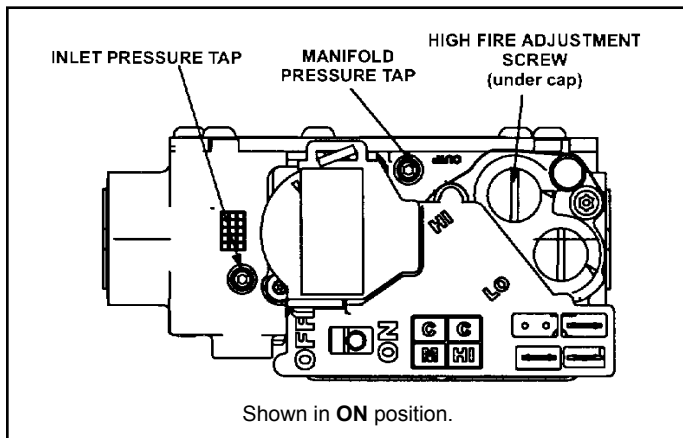
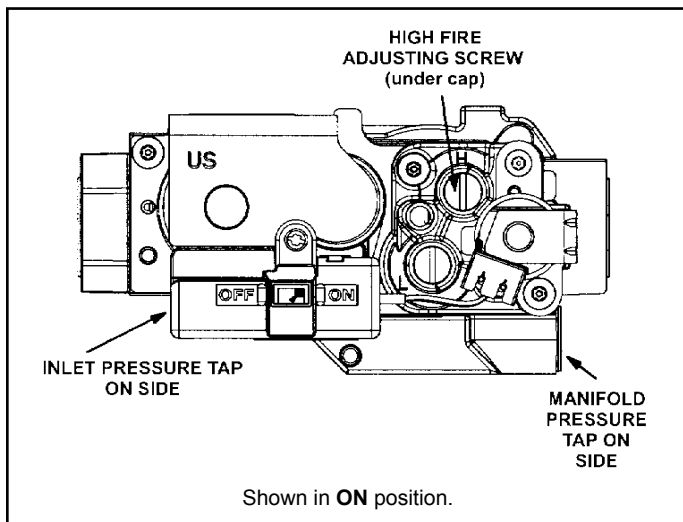

Figure 33. White Rodgers Gas Valve
Figure 34. Honeywell Gas Valve
See Figure 33 and Figure 34
6. Move gas valve switch to OFF position. Do not force. See Figure 33 and Figure 34.
7. Wait five (5) minutes to clear out any gas. If you then smell gas, **STOP!** Immediately call your gas supplier from a neighbor's phone. Follow the gas supplier's instructions. If you do not smell gas go to next step.
8. Move gas valve switch to ON position. Do not force. See Figure 33 and Figure 34.
4. Move gas valve switch to OFF position. Do not force. See Figure 33 and Figure 34.
1. Connect test gauge to manifold pressure tap (Figure 33 and Figure 34) on gas valve.
4. If necessary, make adjustments. Figure 33 and Figure 34 show the location of high fire adjustment screw.